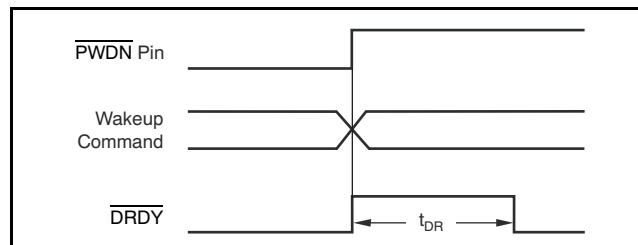

Figure 41. $\overline{\text{PWDN}}$ Pin and Wake-Up Command Timing
In power-down, note that the device outputs remain active and the device inputs must not float. When the Standby command is sent, the SPI port and the configuration registers are kept active. Figure 41 and Table 13 show the timing.
(1) See Figure 41 and Table 13 for time to new data.